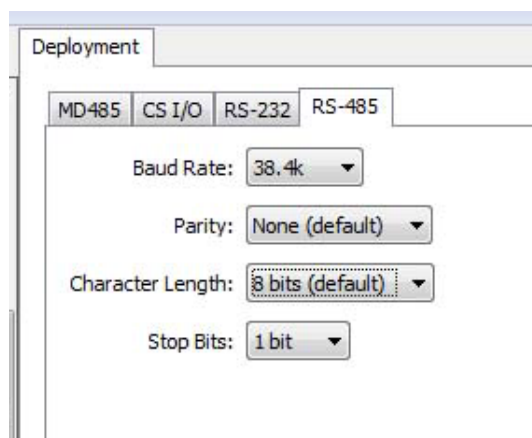

FIGURE 8-10. MD485 RS-485 tab
6. Click the **RS-485** tab. Set **Baud Rate** to 38.4 kbps. Set **Parity** to *None*. Set **Character Length** to 8 bits. Set **Stop Bits** to 1 bit (FIGURE 8-10).